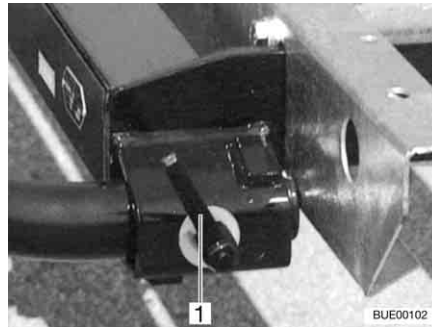

Fig. 6 Quick closure
- Insert the supports on the left and on the right into the holders on the frame and secure them with a quick closure (Fig. 6,1).
- Open the quick closure (Fig. 6,1) and pull the support from the holders on the frame.